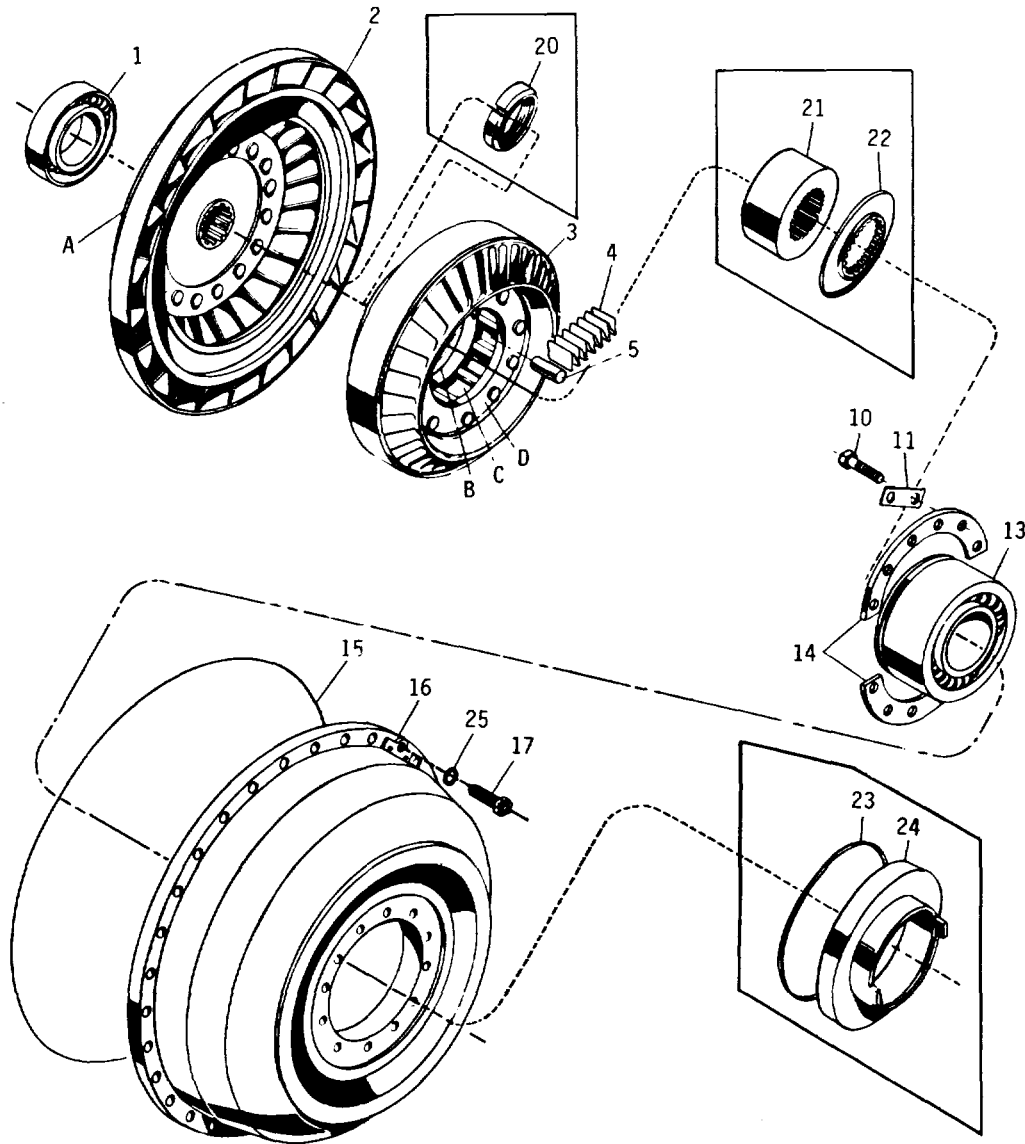
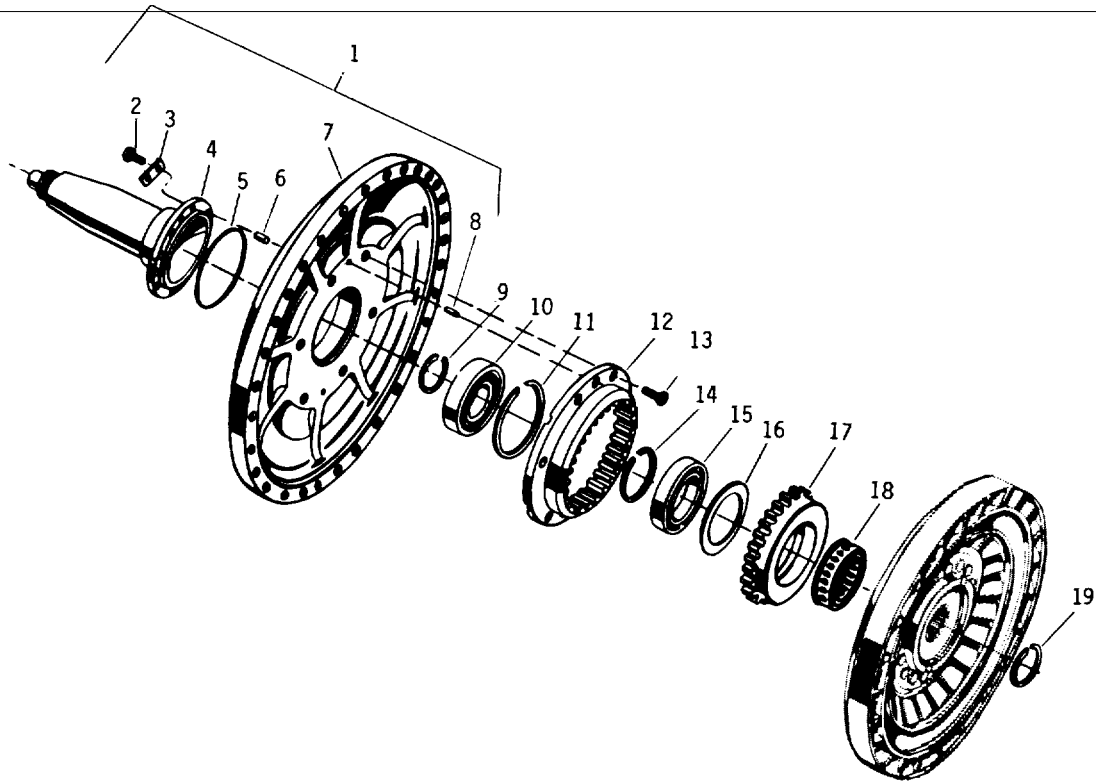
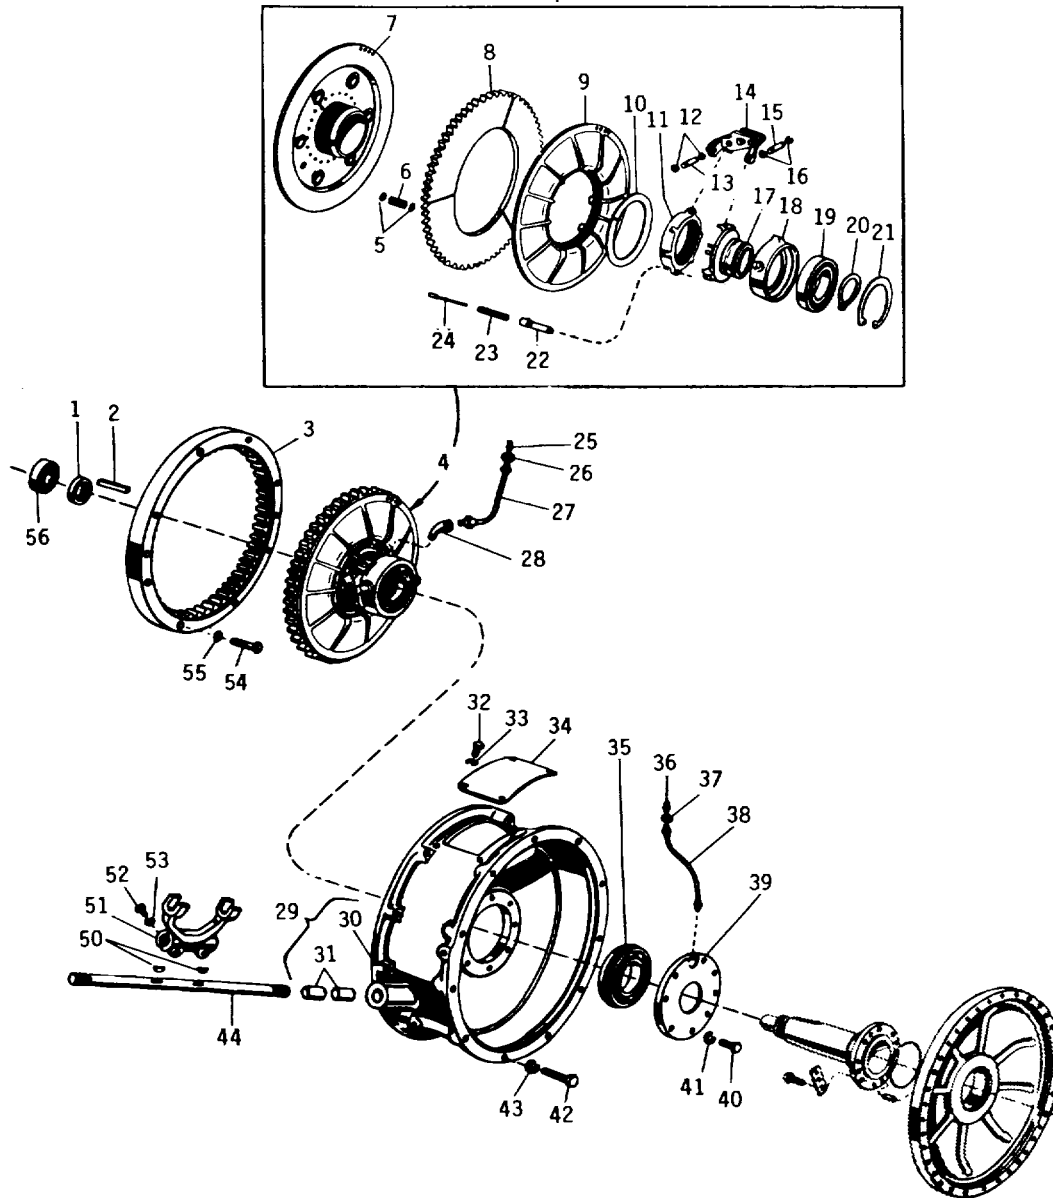

Fig. 20
Fig. 24
Fig. 33
(1) Disassembly (Fig. 20)
- (b) Remove seal ring (23) (Fig. 20) from converter pump hub (24).
- (c) Press double-row ball bearing assembly (13) from converter pump hub (24).
- (2) Cleaning, Inspection. Refer to paragraph 74.4 for cleaning and inspection procedures.
- (3) Assembly (Fig. 20)
- (a) Install double-row ball bearing assembly (13) (Fig. 20), seal ring, groove side up, into converter pump hub (24). Press the bearing until it is firmly seated in the hub.
- (b) Install seal ring (23) onto pump hub (24).
- (a) Remove rollers (5) and springs (4) from stator
- (3).
- (b) Remove bearing (7) and washer (6) from the stator.
(1) Disassembly
- (a) Remove snap ring (14) (Fig. 24) from converter turbine (2) (Fig. 20).
- (b) Remove sprag clutch race (17) (Fig. 24) with bearing assembly (15) and retainer (16).
- (c) Press bearing assembly (15) from race (17) and remove retainer (16).
- (d) Remove sprag assembly (18) from converter turbine (2) (Fig. 20).
(2) Cleaning, Inspection, Wear Limits. Refer to paragraph 74.4 for cleaning and inspection procedures, and to 74.28-34 for wear limits information.
(3) Assembly
- (a) Install retainer (16) (Fig. 24) in sprag race (17).
- (b) Install bearing assembly (15) in sprag race (17). Press the bearing until it is firmly seated against the retainer in the race.
- (c) Install sprag clutch assembly (18), flanged side out, onto converter turbine (2) (Fig. 20).
(e) Install snap ring (14) (Fig. 24).
(1) Disassembly (Fig. 33)
- (a) Using a bearing puller, remove ball bearing assembly (56) (Fig. 33) from the end of converter drive shaft (4) (Fig. 24).
- (b) Remove four bolts (32) (Fig. 33) and lock washer (33) securing access cover (34).
- (c) Disconnect two grease fittings (25) and (36) and nuts (26) and (37) from the bearing lube tubes (27) and (38) and remove access cover (34).
- (d) Using wrench TSD 20231 (Fig. 3), remove spanner lock nut (1) (Fig. 33) from the front end of the converter drive shaft.
- (e) Using caution not to damage the bearing diameter, drive or press converter drive shaft (4) (Fig. 24) rear-ward out of clutch assembly (4) (Fig. 33) and ball bearing (35). Remove converter drive housing assembly (7) (Fig. 24), but DO NOT disassemble the drive shaft from the drive housing since it was partially machined after assembly.
- (f) Remove key (2) (Fig. 33), clutch assembly (4), and attached bearing lube tube (27).
- (g) If necessary for parts replacement, remove elbow (28) and bearing lube tube (27) from shift collar (18).
- (h) Remove eight bolts (40) and lock-washers (41) from bearing retainer (39).